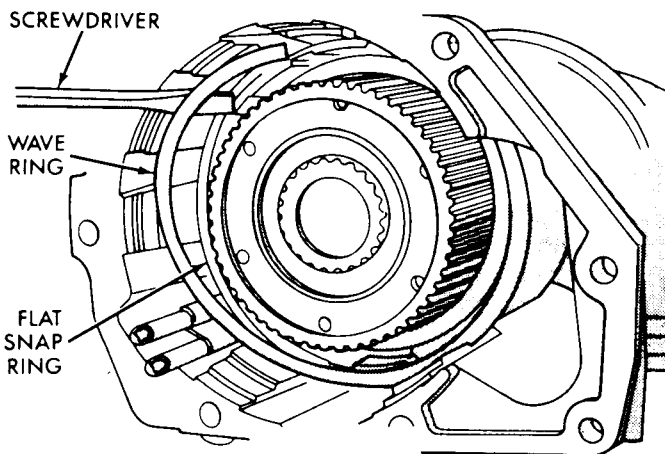

Fig. 5—Wave Ring
(3) Remove wave ring. This special ring acts as a cushion to absorb shock when the overdrive clutch engages (Fig. 5).